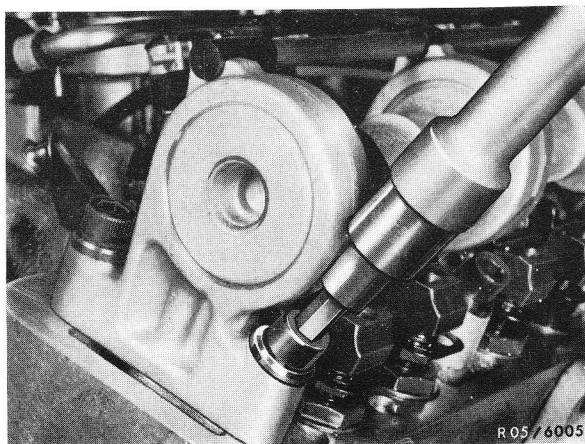

Fig. 2
**Caution!** Use socket spanner insert for loosening and tightening fastening bolts (Fig. 2).